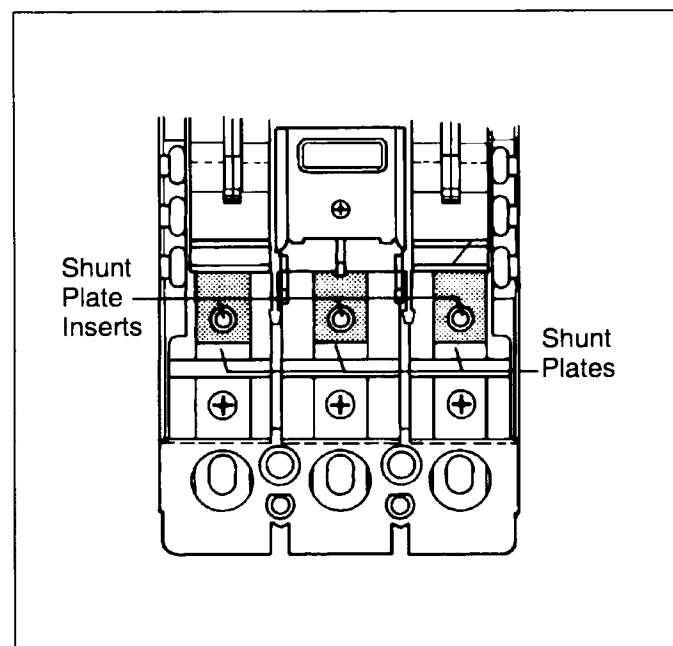

Figure 2-1 Shunt Plates Centered Over Shunt Plate Inserts
2-3. Remove two screws from outer shunt plate inserts. (See Fig. 2-1.)
**Make sure shunt plates are centered over shunt plate inserts. (See Fig. 2-1.)**